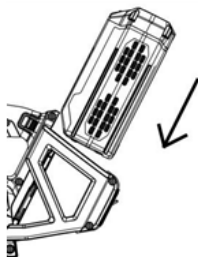

Fig 12
1. Insert the battery pack into the socket until you hear a clear "click" sound (Fig. 12).